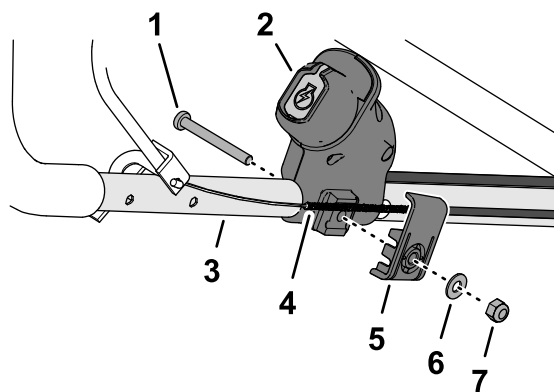

Figure 13
2. Above the push-in fastener, assemble the electric-start switch onto the handlebar (Figure 13).